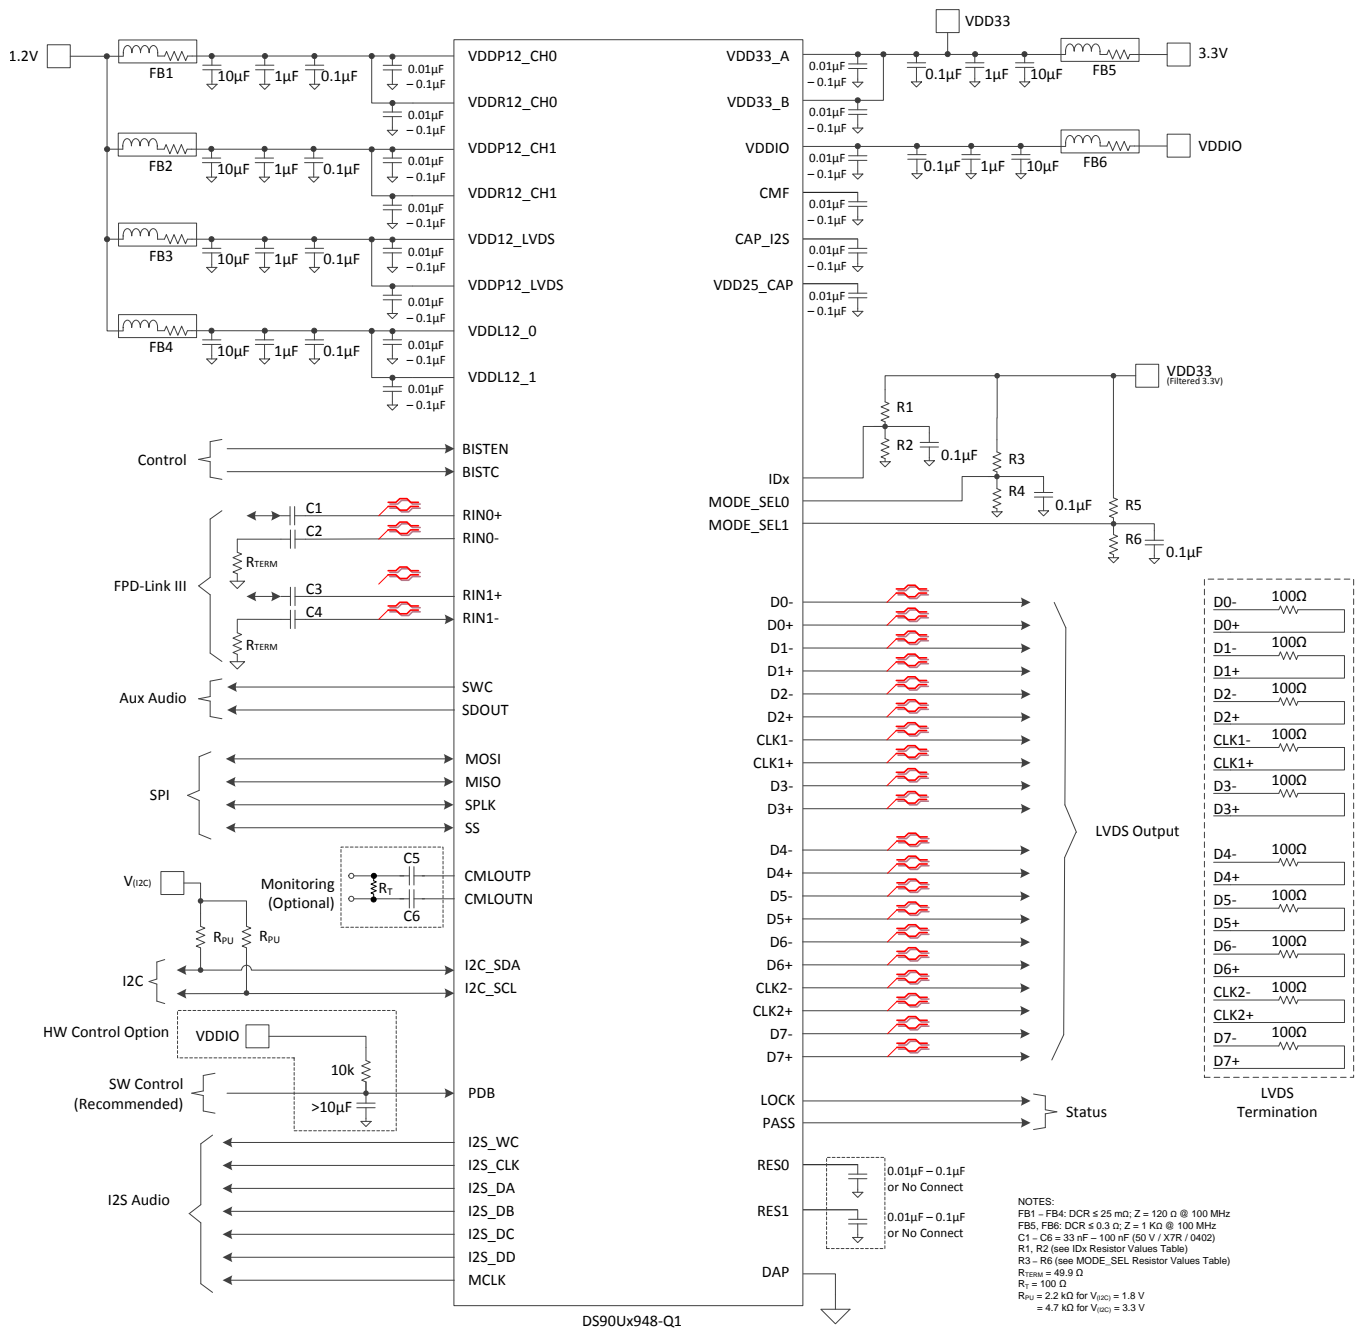

Figure 48. Typical Connection Diagram (Coax)
Bypass capacitors must be placed near the power supply pins. At a minimum, use four (4) 10- $\mu$ F capacitors for local device bypassing. Ferrite beads are placed on the two sets of supply pins (VDD33 and VDDIO ) for effective noise suppression. The interface to the graphics source is LVDS. The VDDIO pins may be connected to 3.3 V or 1.8 V. A capacitor and resistor are placed on the PDB pin to delay the enabling of the device until power is stable. See Figure 48 for a typical STP connection diagram and Figure 49 for a typical coax connection diagram.